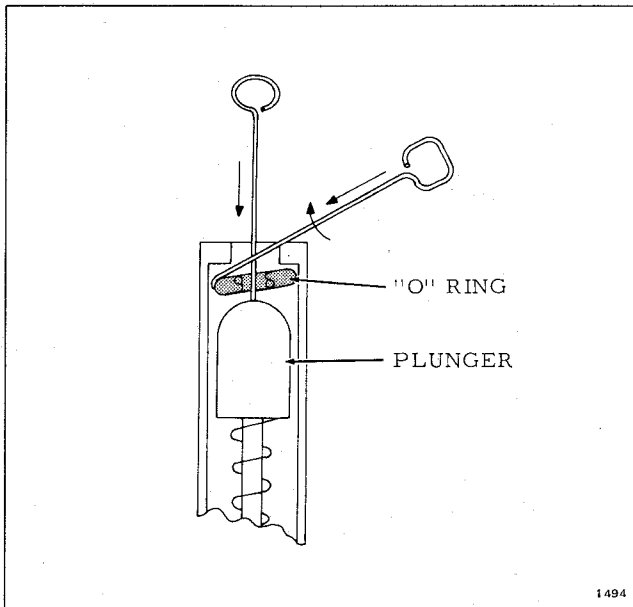

Figure 3-36. Removing "O" Rings
c. Insert the hooked instrument between the "O" ring and its seat with the hook in a flat or horizontal position. See Figure 3-36.